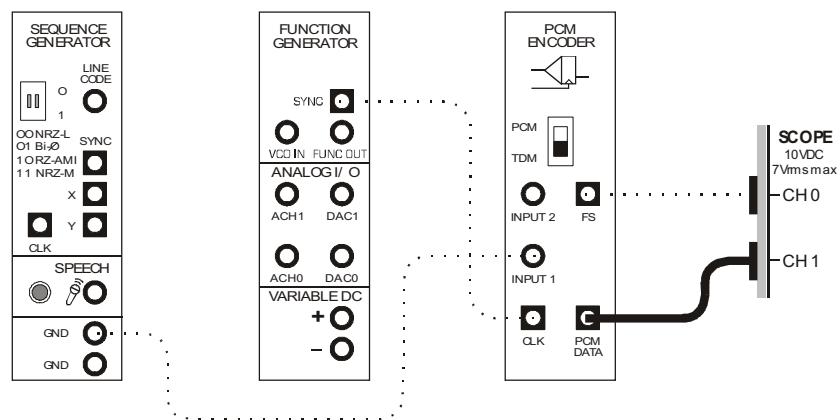

Figure 5
20. Connect the scope's Channel 1 input to the PCM Encoder module's output as shown in Figure 5 below.